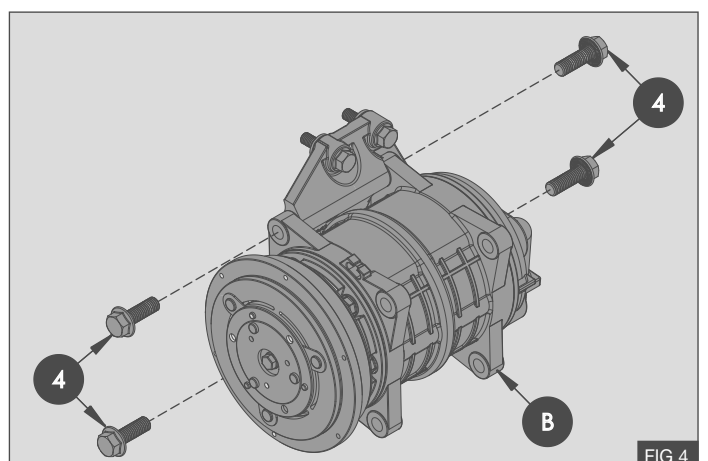

FIG 4
6. Fit the compressor **(B)** to the mount bracket assembly **(1)** and secure with the four supplied M10 x 30 **(4)** flange bolts - Fig 4